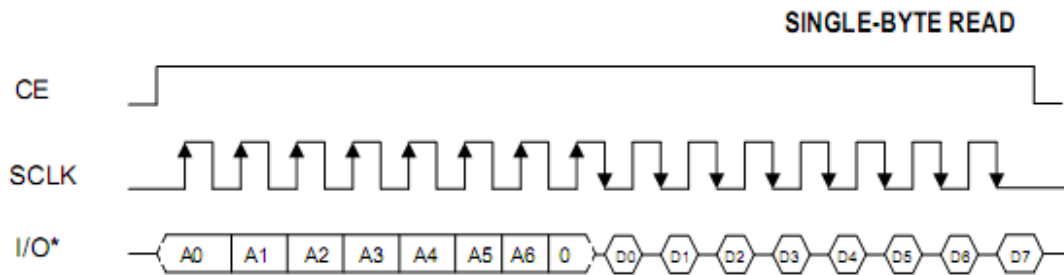

Figure 6: Timing diagram to read a data from DS1305.
- * Note that to read data from the DS1305 it is necessary to send an address byte with bit 7 in 0. In response, the RTC will send the time/date data. Figure 6 shows a timing diagram with the required sequence of signals.